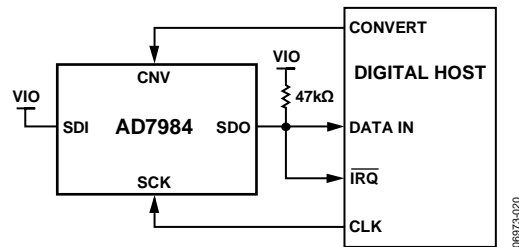
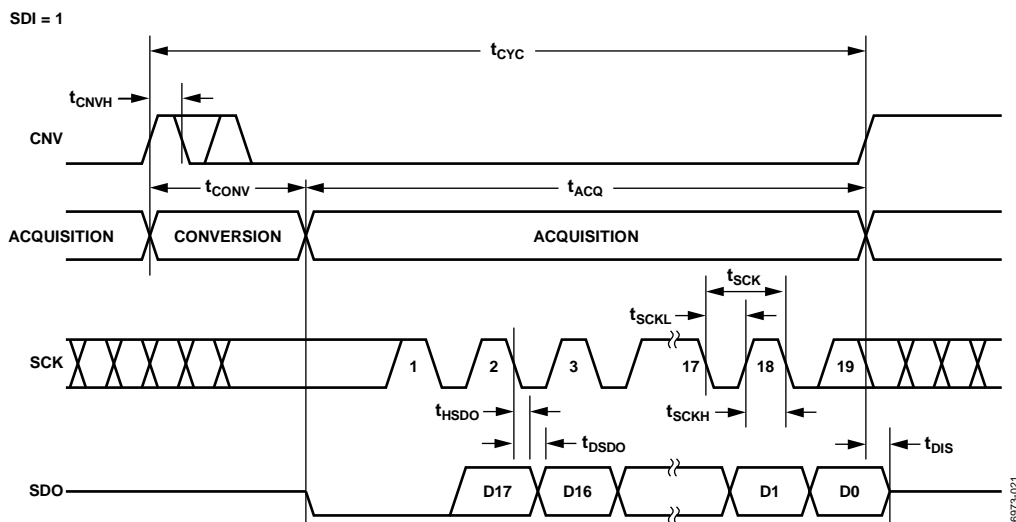
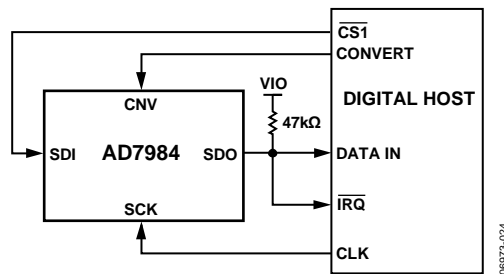
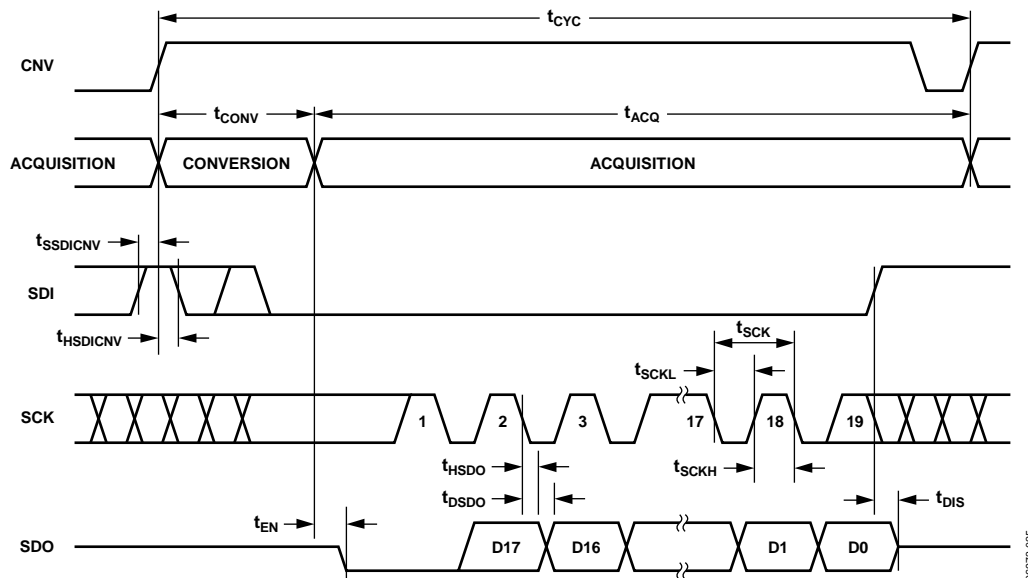

Figure 30. $\overline{\text{CS}}$ Mode, 3-Wire with Busy Indicator Connection Diagram (SDI High)
Figure 31. $\overline{\text{CS}}$ Mode, 3-Wire with Busy Indicator Serial Interface Timing (SDI High)
Figure 34. \overline{CS} Mode, 4-Wire with Busy Indicator Connection Diagram
Figure 35. \overline{CS} Mode, 4-Wire with Busy Indicator Serial Interface Timing
- In \overline{CS} mode if CNV or SDI is low when the ADC conversion ends (see Figure 31 and Figure 35).
The connection diagram is shown in Figure 30, and the corresponding timing is given in Figure 31.
The connection diagram is shown in Figure 34, and the corresponding timing is given in Figure 35.